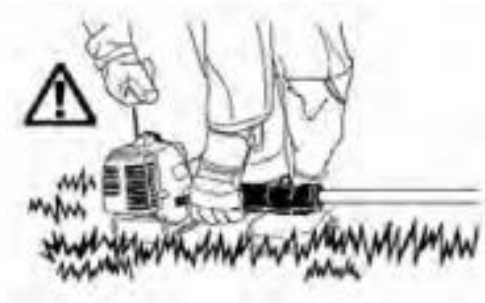

Fig.15
- 4) Slowly pull the recoil starter until you feel it engage and then pull it quickly. till it starts.((fig.15)